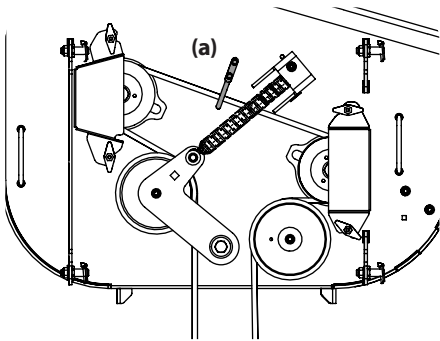
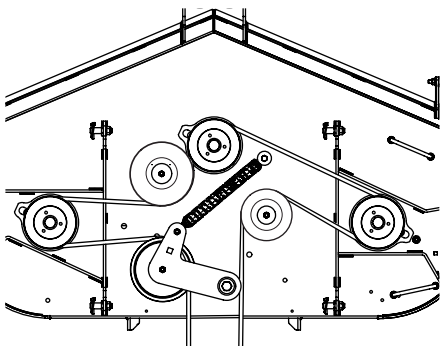

Figure 20
Figure 21
5. Route the new belt as shown in Figure 20 for 36" decks and Figure 21 for 48" and 54" decks. Then reinstall the deck.